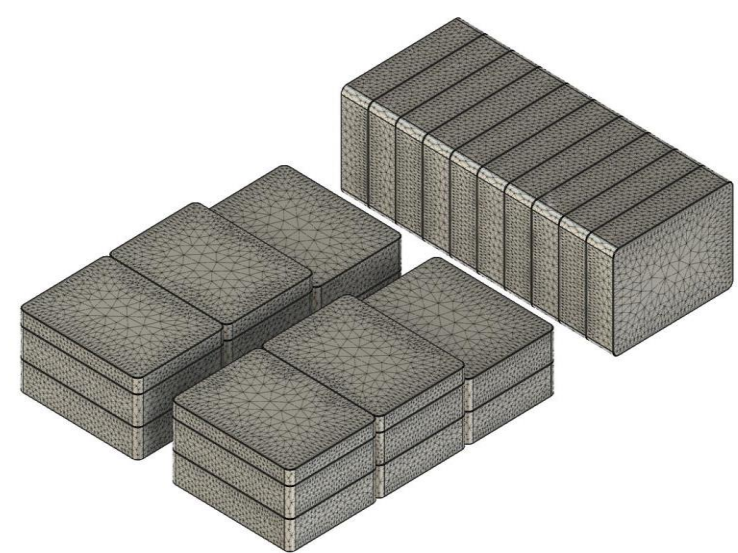

Fig.6. CAD Model and Mesh of the Full EV Pack with Individual Modules
- The process was initiated by creating a three-dimensional (3D) model of the EV battery pack using Inventor and Fusion360. These accurately represented and visualised the physical geometry of the pack, including individual modules (Fig.6.).